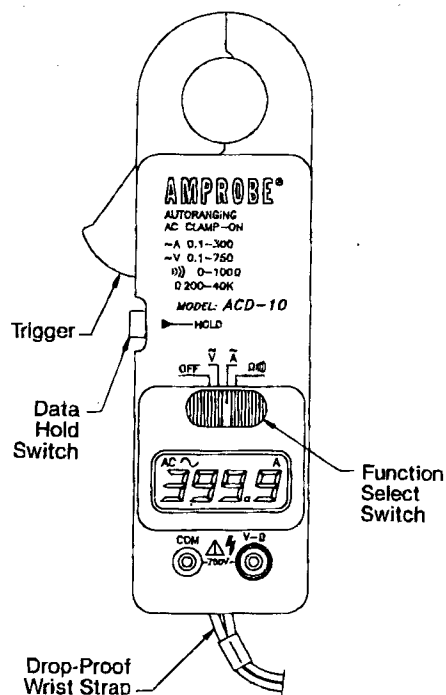

Fig. 1
- 2) Turn instrument on by moving function select switch (fig. 1) to Amps position.